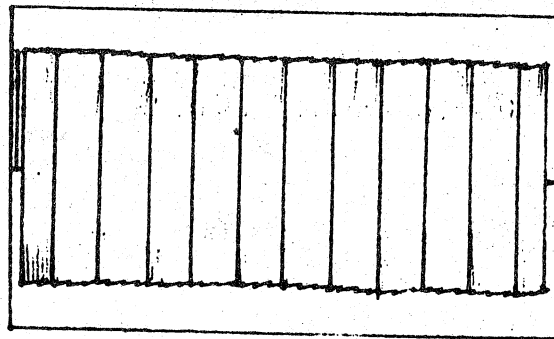

Fig. 12
- c) Remove the head clamping screws. See Figure 12.
An additional feature of the alignment cartridge is its ability to indicate the degree of runout of the spindle. By triggering the oscilloscope on INDEX and displaying a complete revolution of the disk on the display, the head may appear to be aligned at a few sector locations while misaligned at others. Such a condition is indicative of the degree of wobble of the spindle. Figure 11 shows a display with negligible runout while Figure 12 shows a